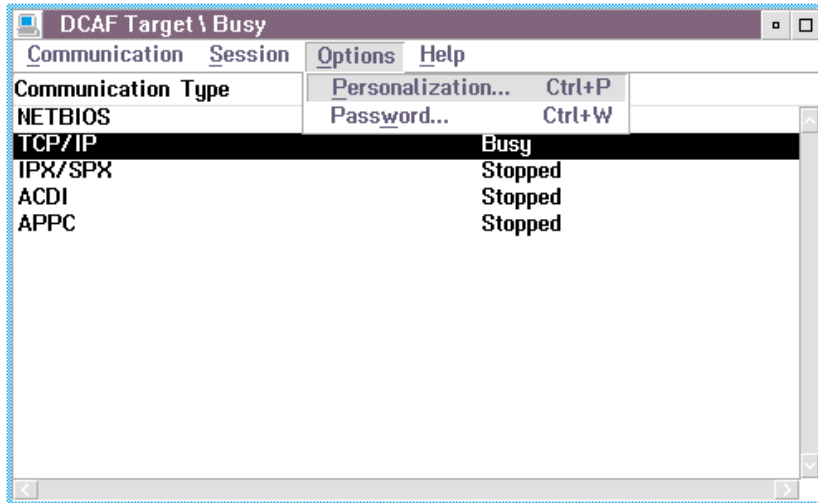

Figure 165. Session Pull-down Menu
2. From the Options menu, select **Password** from the DCAF Target window (Figure 165 on page 256).